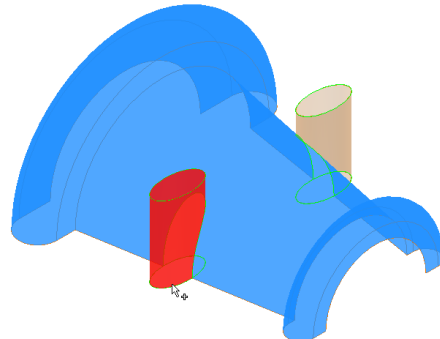

Figure 18-57 *Trimming one of the extruded surfaces*
4. Using the base surface as the cutting tool, trim the remaining portion of the extruded surface on the left of the base surface, as shown in Figure 18-57.